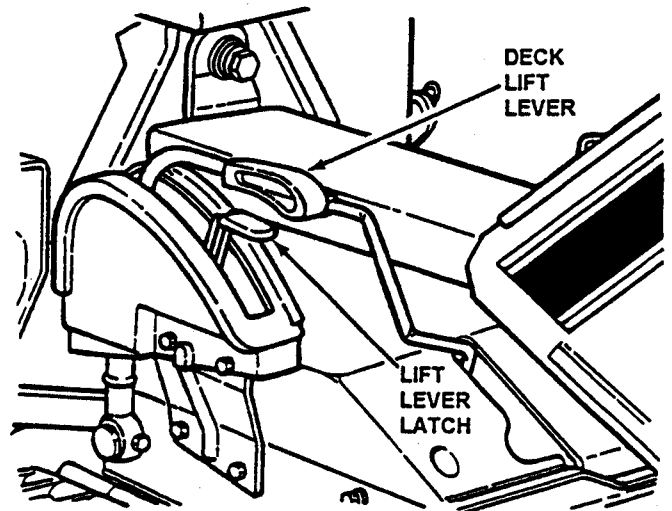

FIGURE 2.15
1. Adjust cutting height as desired to any one of six positions using deck lift lever. When in desired height of cut, release lift lever, then try to move deck lift lever to ensure lift lever latch is fully engaged. See Figure 2.15.